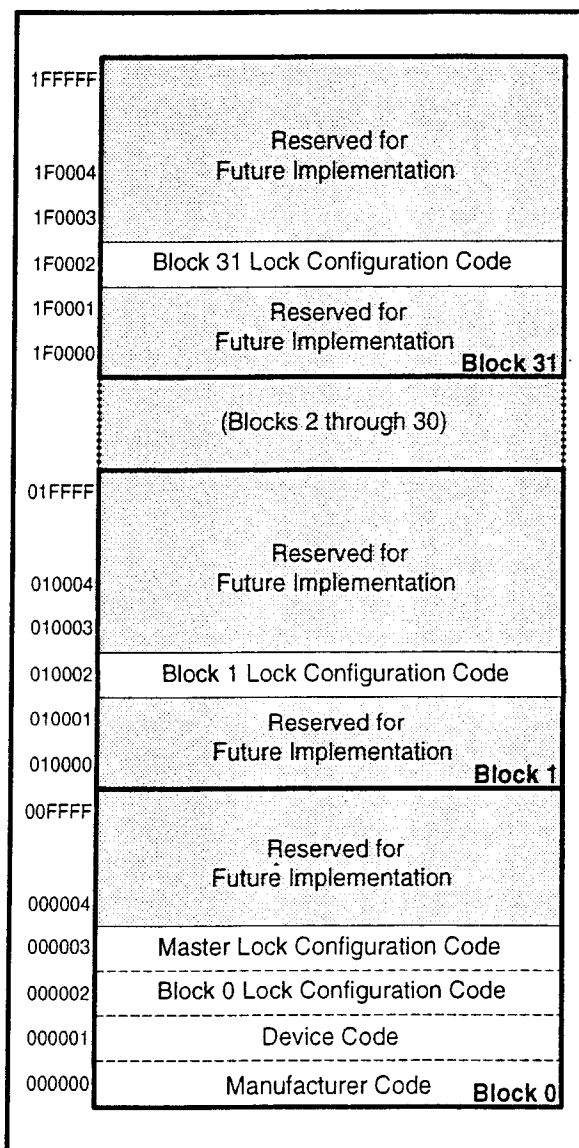

Figure 4. Device Identifier Code Memory Map
The read identifier codes operation outputs the manufacturer code, device code, block lock configuration codes for each block, and the master lock configuration code (see Figure 4). Using the manufacturer and device codes, the system CPU can automatically match the device with its proper algorithms. The block lock and master lock configuration codes identify locked and unlocked blocks and master lock-bit setting.
IA=Identifier Code Address: see Figure 4.
The identifier code operation is initiated by writing the Read Identifier Codes command. Following the command write, read cycles from addresses shown in Figure 4 retrieve the manufacturer, device, block lock configuration and master lock configuration codes (see Table 5 for identifier code values). To terminate the operation, write another valid command. Like the Read Array command, the Read Identifier Codes command functions independently of the V_{PP} voltage and $RP\#$ can be V_{IH} or V_{HH} . Following the Read Identifier Codes command, the following information can be read:
1. X selects the specific block lock configuration code to be read. See Figure 4 for the device identifier code memory map.